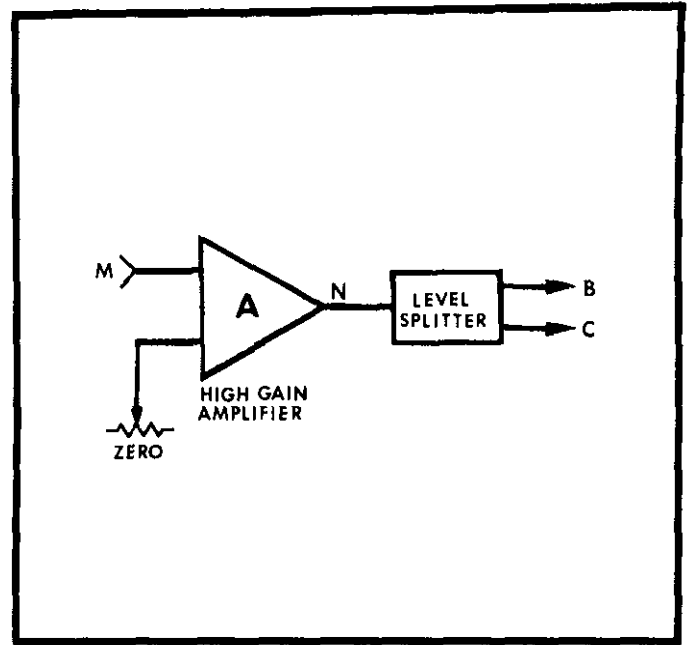

FIGURE 18. Zero Crossing Detector Block Diagram.
h. Zero Crossing Detector. The Zero Crossing Detector circuit provides a "High" or "Low" level output depending on the polarity of the detected input. Refer to Table 19 for a description of voltage outputs of the Zero Crossing Detector (refer to Figure 18).
2. Zero Crossing Detector Circuit. (Refer to Figure 18). The high gain amplifier is composed of cascaded amplifiers QA602 and QA603. The zero adjustment network consists of resistors R645, R646, R648, R649, and R650, and diodes D611 and D612. Transistor Q609 and other components form a 6-volt supply for QA603 and the zero circuit. The level-splitter circuit consists of diodes D613 and D614, resistors R651, R652, and R653 and gates QA604 (A, B,C).
f. Polarity Board. The Polarity Board contains various circuits which are controlled by signals "B" and "C" from the Zero Crossing Detector signal as shown in Figure 18.